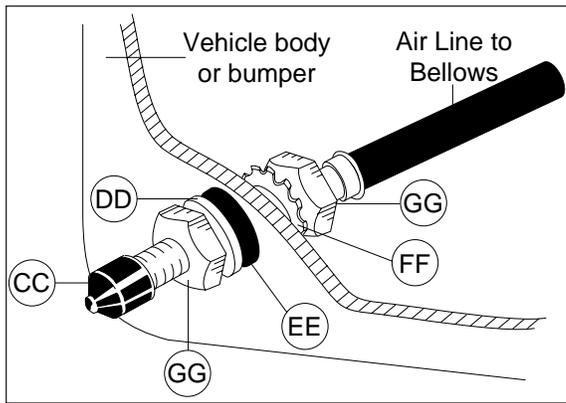

Figure 5
3. Cut the air line assembly (AA) in two equal lengths.
4. Place a 5/16" nut (GG) and a star washer (FF) on the air valve. Leave enough of the inflation valve in front of the nut to extend through the hole and have room for the rubber washer (EE), flat washer (DD), and 5/16" nut (GG) and cap (CC). There should be enough valve exposed after installation - approximately 1/2" - to easily apply a pressure gauge or an air chuck (Figure 5).
5. Push the inflation valve through the hole and use the rubber washer (EE), flat washer (DD), and another  $\frac{5}{16}$ " nut (GG) to secure it in place. Tighten the nuts to secure the assembly in place (Figure 5).
6. Route the air line along the frame to the air fitting on the air spring. Keep at least 6" of clearance between the air line and heat sources, such as the exhaust pipes, muffler, or catalytic converter. Avoid sharp bends and edges. Use the plastic tie straps (BB) to secure the air line to fixed, non-moving points along the chassis. Be sure that the tie straps are tight, but do not pinch the air line. Leave at least 2" of slack to allow for any movement that might pull on the air line.